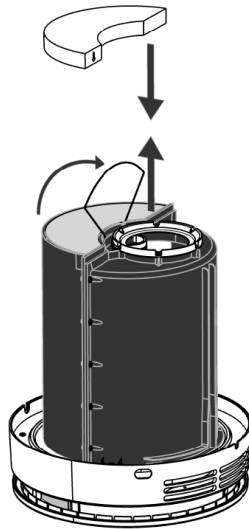

Figure 24 - Changing the outside filter
5. Open the metal brace keeping the outside filter in place, see Figure 24 below.